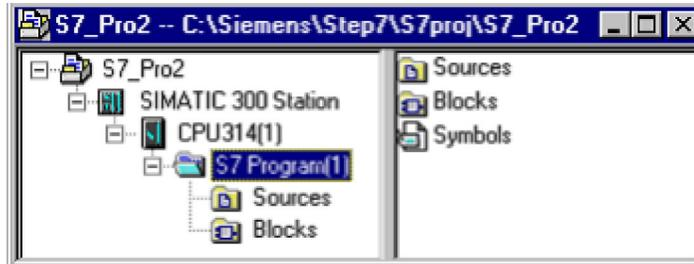

Figure 9: Project window
- Click in the left half of the project window on the box containing a plus sign to display the full tree structure of the project. The resulting structure will look something like figure 9. Double click on “SIMATIC 400 Station” then choose “Hardware”.
- Click in the left half of the project window on the box containing a plus sign to display the full tree structure of the project, see figure 9.